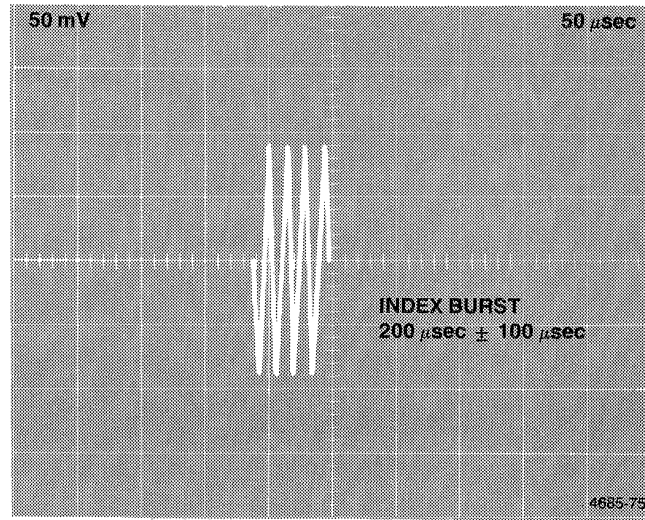

Figure 13-6. Index Timing.
5. Verify that the timing between the start of the sweep and the first data pulse is 200 (+200/-100) <micro>sec (Figure 13-6). If the timing is not within this specification, proceed with Step 6. If the timing is within specification, proceed to the Write-Protect Switch Adjustment in this section.